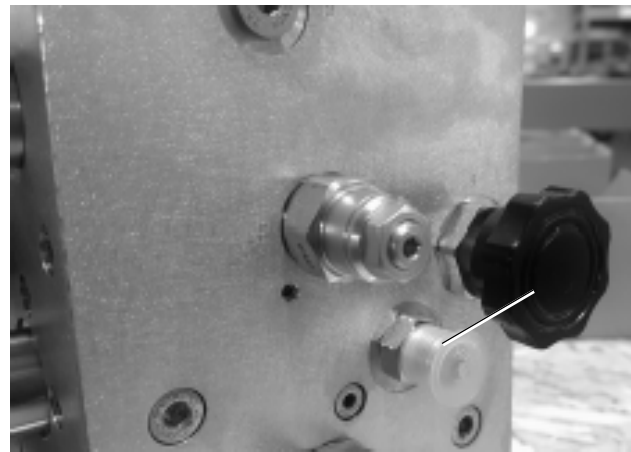

Figure 7.5 – Free Wheeling Valve
1. Inspect all hydraulic hoses, tubes, and fittings for wear, leakage, or damage (refer to Figure 7.5).
The free-wheeling valve is on the main manifold in the hydraulic cabinet. (refer to Figure 7.5).